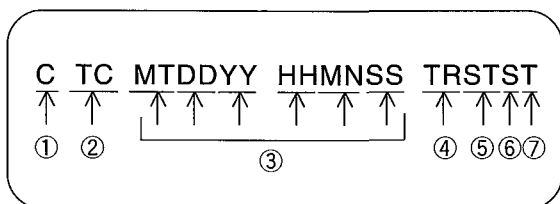

Fig. 4-9 OSD Screen
(2)Details of display (See Fig.4-9)